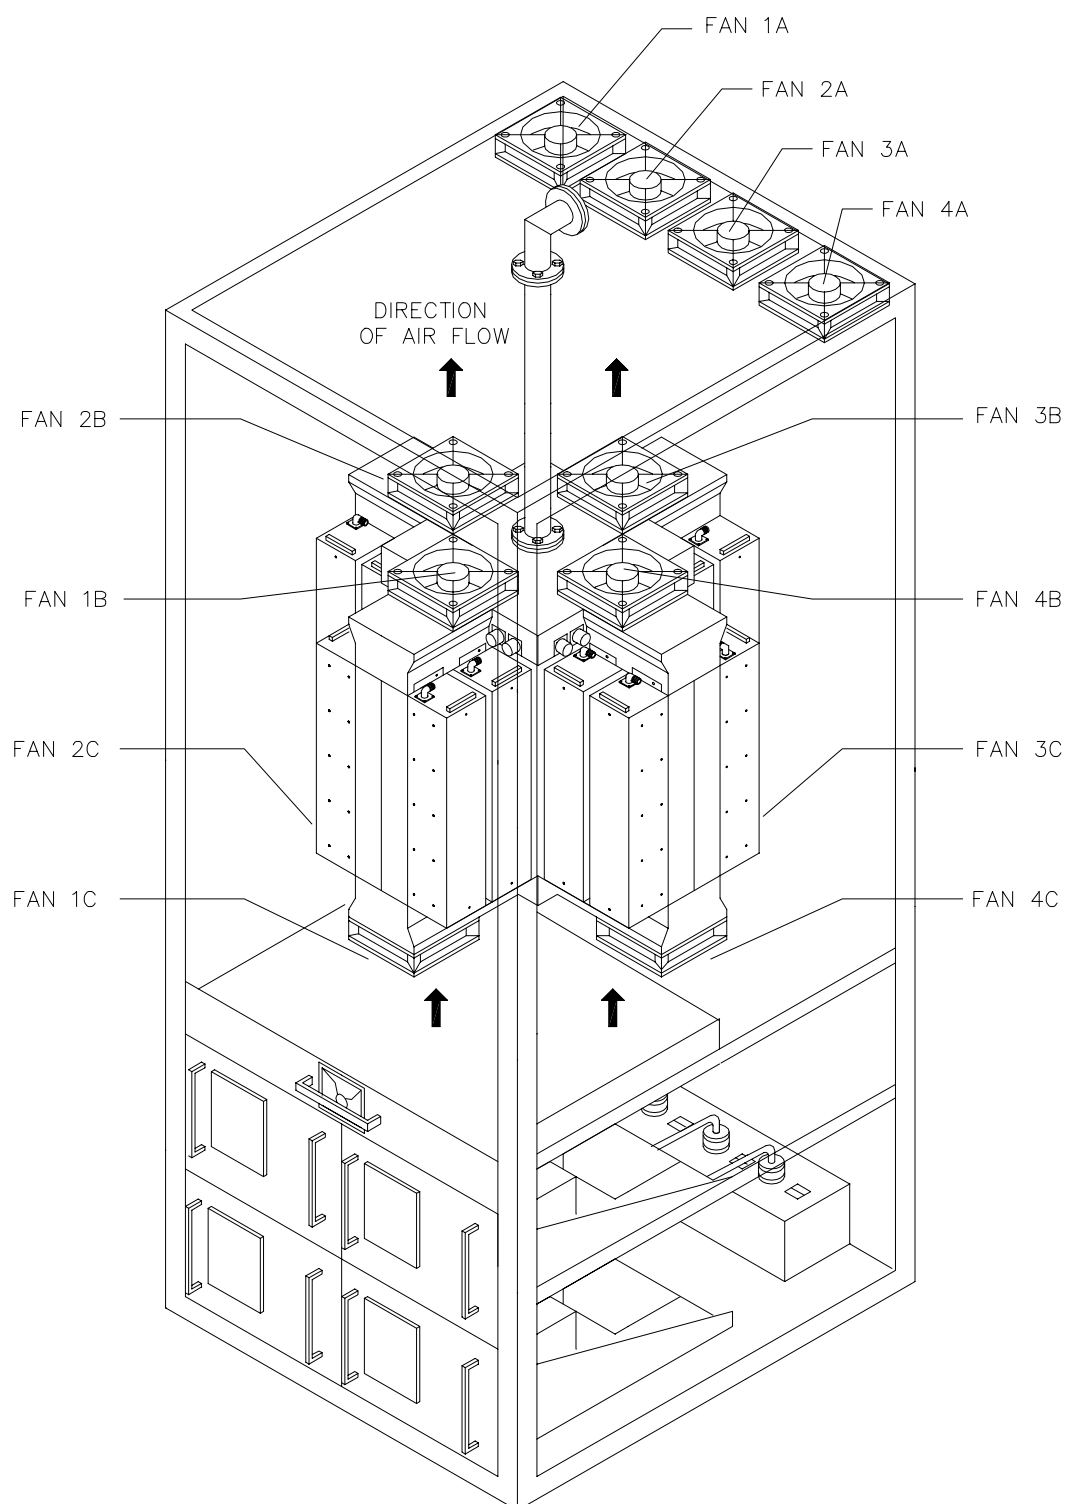

Figure 6-20 PA Cabinet Cooling Fan Assemblies
The 1.2-KW PA Modules (PA modules) provide RF power to the radar, and are located in the PA Cabinet below the 16-Way Power Combiner (see Figure 6-2). The PA Modules are grouped into four Quads, with four modules per Quad as illustrated in Figure 6-3. Quad 1 contains of PA Modules 1-4, Quad 2 contains modules 5-8, Quad 3 contains PA modules 9-12, and Quad 4 contains modules 13-16. DC power is supplied to the Quads by PA Power Supplies (described in Section 6.4), and cooled by Cooling Fan Assemblies identified in Figure 6-20.
The PA Cabinet contains twelve fans to cool the sixteen 1.2-KW PA Modules and the 16-Way Power Combiner (see Figure 6-20). Each of the four PA Quads has a Cooling Fan Assembly, consisting of three fans wired in parallel, allocated to it. Two of the fans in each assembly are located above and below the Quad, and the third is mounted at the top of PA Cabinet above the Quad. The numbers in Figure 6-20 correspond to the designations of the PA Quads and PA Power Supplies.
2. Perform a visual inspection of the cooling fans to verify that they are turning under power. Carefully evaluate the fans directly above and below Quads1-4. The air flow in the PA Cabinet can cause a malfunctioning fan to spin, making it appear to be operating properly. To confirm that the fan is operating under power, apply pressure to the center of the fan using your finger or a pencil eraser. The direction of air flow for the cooling fans is indicated in Figure 6-20.
3. Temporarily connect the new fan to the power connector to verify correct operation and to determine that the direction of air flow caused by the fan conforms with the direction identified in Figure 6-20.
Each PA Power Supply Drawer contains three subsidiary power supplies (+37.5 VDC, +12 VDC, and +5 VDC) and a PA Power Supply Monitor Board. These are identified in Figure 6-20.